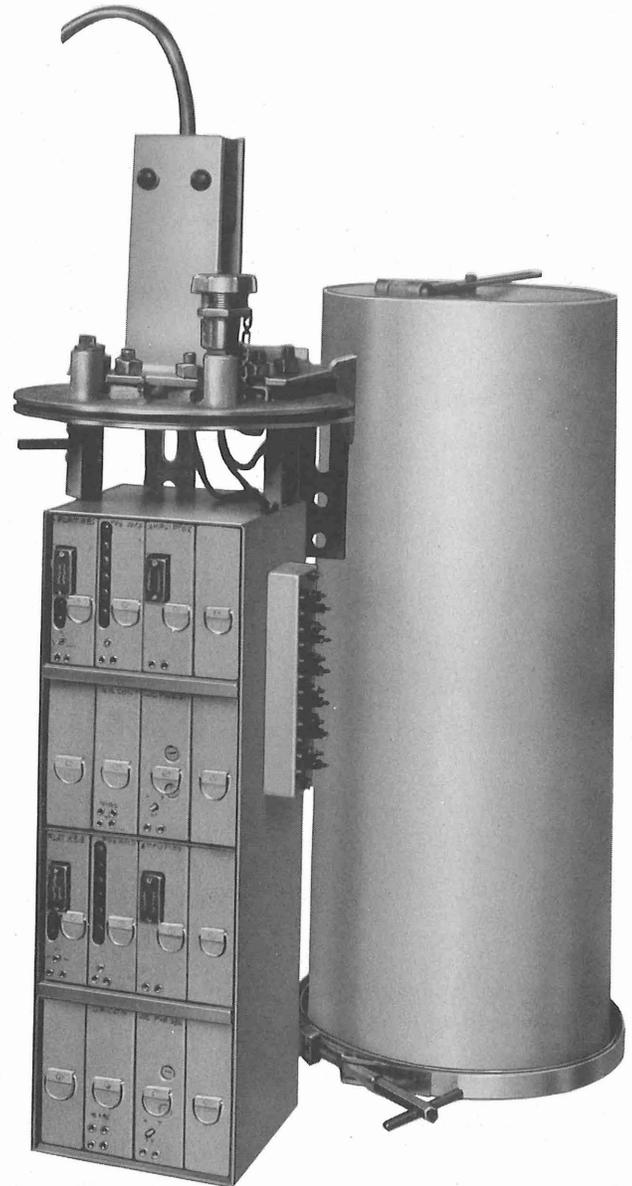

Fig. 2—J70171B Apparatus Case
**3.05** The J70171B apparatus case is intended for either pole or manhole mountings and contains one full duplex repeater. An aluminum framework inside the case provides four equal compartments. The two upper compartments accommodate transmission direction 1, side A to B. The two lower compartments accommodate direction 2, side B to A. Each direction (two compartments) consists of eight plug-in circuit packs. Five circuit packs are operational and the other three are spacers (ED-73208-50). The framework is mounted in a watertight, hermetically sealed 470-type apparatus case as shown in Fig. 2.